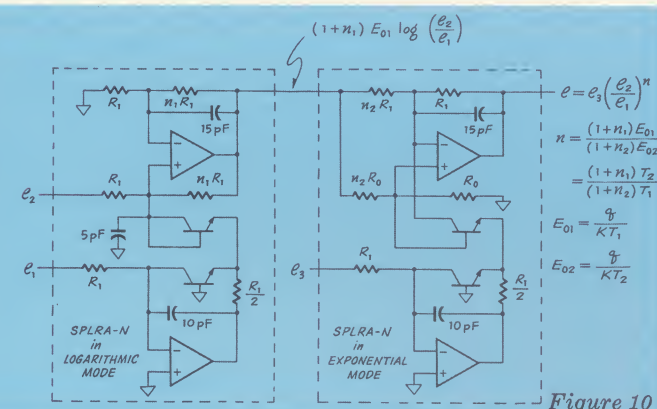

Figure 10
LOG MULTIPLIER (USING LOG RATIO CIRCUITS). The Philbrick Log Ratio Amplifiers (SPLRA-P or N) and Log Ratio Transconductors (SPLR-P or N) make convenient "building blocks" for a logarithmic multiplier. The circuit of Fig. 10 shows two SPLRA-N Log Ratio amplifiers connected to give an output
LOG OF RATIO CIRCUITS. Figs. 10(a) and 10(b) show two connections in which one may incorporate a diode-connected dual logarithmic transconductor (such as the (P) PL1-N/P) and, with the aid of a differential amplifier, create an output voltage that is proportional to the logarithm of the ratio of the two input currents. These circuits have the limitation that they will operate only with unidirectional currents. Circuit (c) shows how to obtain the log of the ratio of two input voltages. The lower amplifier computes the logarithm of the numerator and the upper amplifier functions as a current pump that injects a current proportional to the denominator. The difference between the diode voltages (the log of the ratio) appears at "P" and is magnified by the gain ratio  $(1 + n)$ .